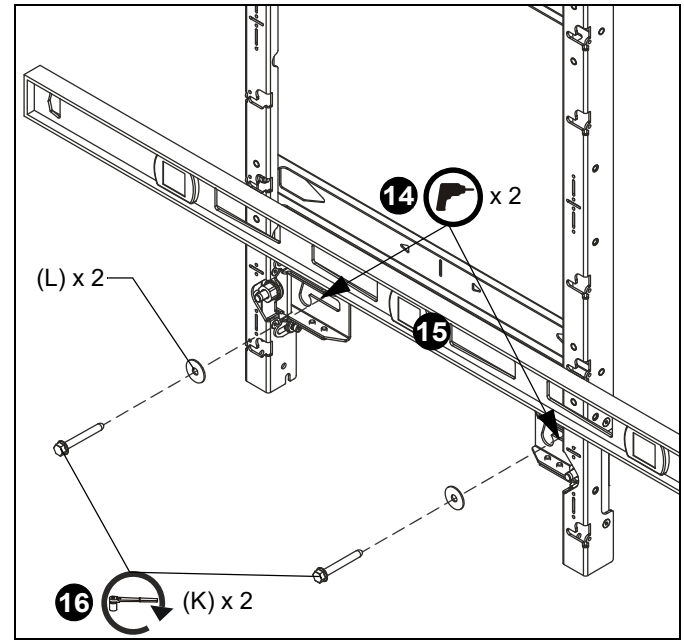

Figure 11
- Drill pilot holes in centerline of lower slots (see Table 1 for size) and follow fastener information (appropriate for wall type) located in Table 1. (See Figure 11)
- Double check the level of the mount at the bottom of the teardrop slots. (See Figure 11)
- Fully tighten the 5/16 x 2-1/2" lag screws (K) through the 5/16" fender washers (L). (See Figure 11)